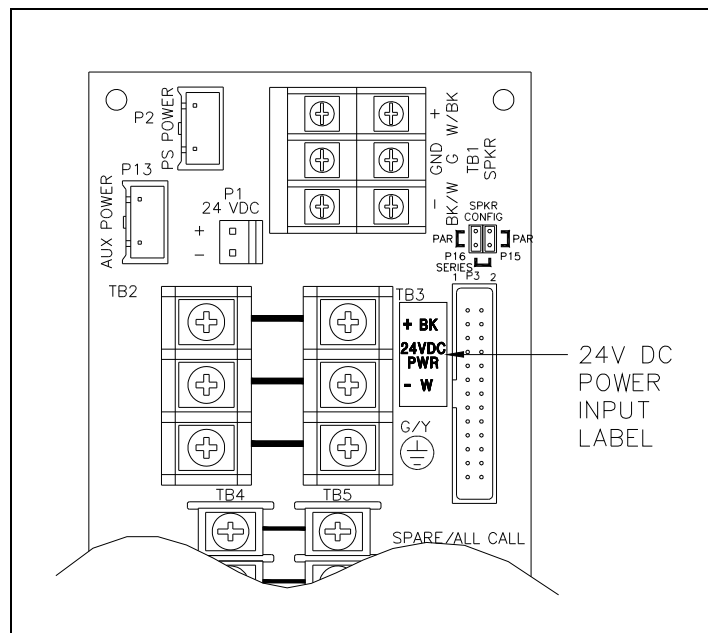

Figure 3. Location for placement of 24 V dc power input label on the Termination PCBA
7. For dc kits, attach the 24 V dc power input label to the Termination PCBA at the location shown in Figure 3.